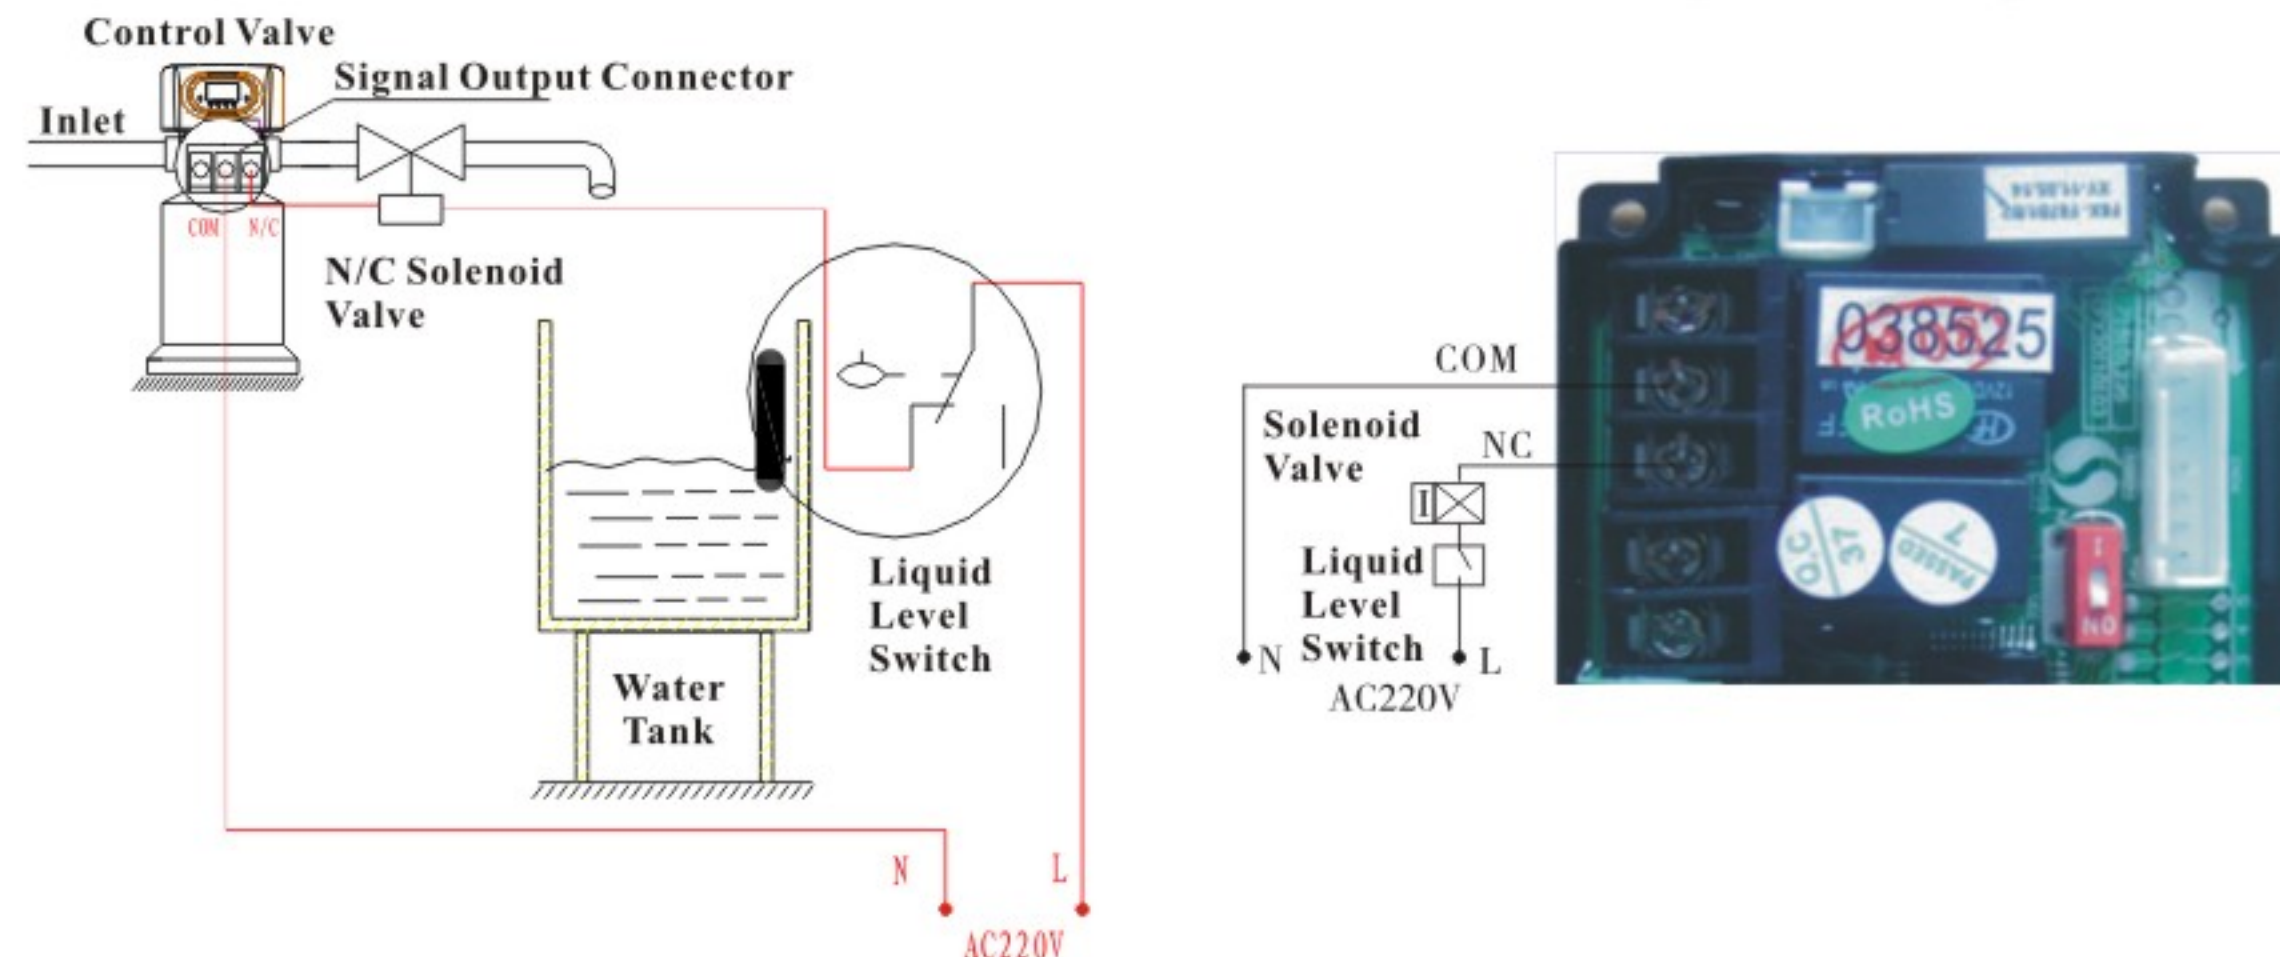

Figure 3-1 Wiring of Solenoid Valve on Outlet
① Solenoid valve on outlet controls water level in brine tank. Instruction: If system strictly require no hard water flow from outlet in regeneration cycle(Mainly for no hard water flow out when valve is switching or valve in backwash or brine drawing positions), a solenoid valve could be installed on outlet, the wiring refer to Figure 3-1.